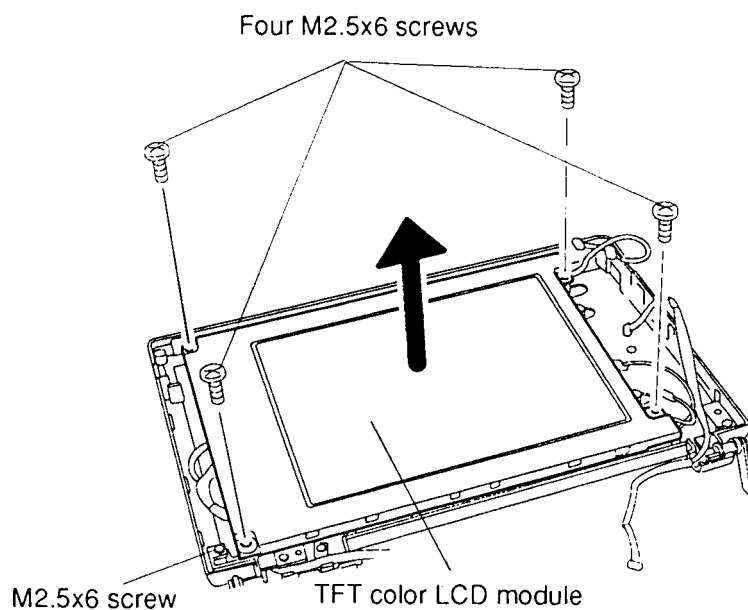

Figure 4-31 Removing the T4500C TFT Color LCD Module
To remove the T4500C's LCD module, follow the steps below and refer to Figures 4-31 and 4-32.
3. Remove **one M2.5x6 screw** securing the **ground cable** to the LCD cover (Figure 4-31).
4. Remove **four M2.5x6 screws** securing the **TFT color LCD module** to the LCD cover (Figure 4-31).
To install the T4500C's 8.4-inch TFT color LCD display, follow the steps below and refer to Figures 4-31 and 4-33:
3. Align the 8.4-inch **TFT color LCD display** and then secure it with **four M2.5x6 screws** (Figure 4-31).